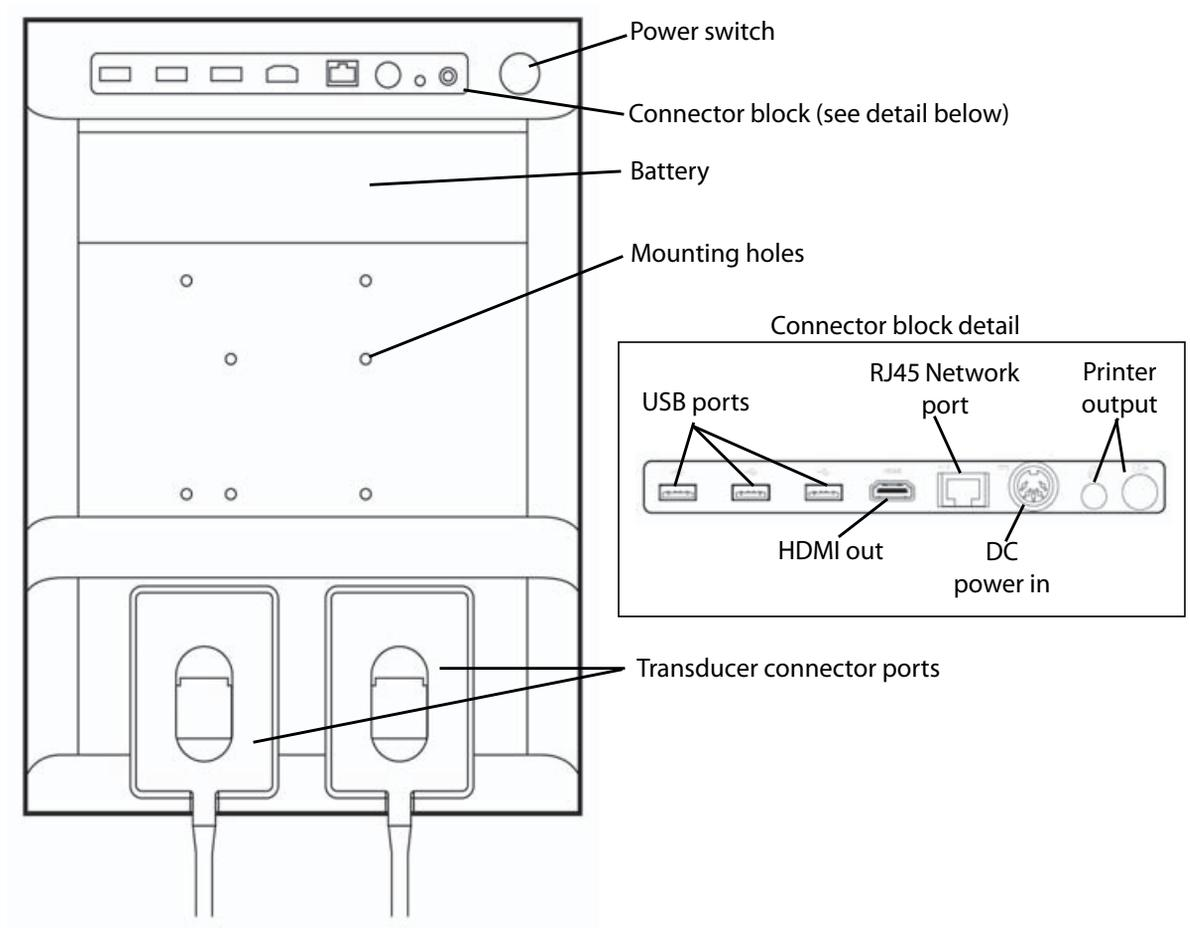

Figure 2-1 System Back
- 1 Turn the system on. For power switch location, refer to **Figure 2-1** on page 4.
The back of the system has compartments for the battery and two transducers as well as connectors for USB devices, power cord, network cable, and more. Refer to **Figure 2-1**.
- 1 Connect the DC power cable from the power supply to the power connector on the system. Refer to **Figure 2-1** on page 4.
- ❖ Press the power switch. Refer to **Figure 2-1** on page 4.
Insert the USB storage device into a USB port on the system. Refer to **Figure 2-1** on page 4. The USB storage device is ready when the USB icon appears.